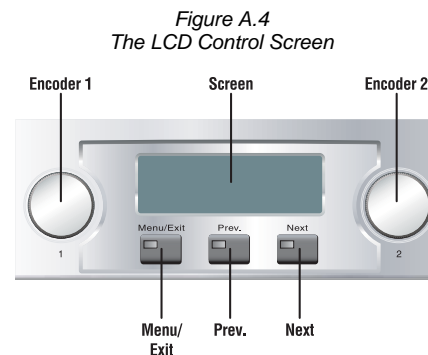

Figure A.4 The LCD Control Screen
2. Turn on the amplifier power switch on the front panel. The LCD Control Screen will light up (Figure A.4).